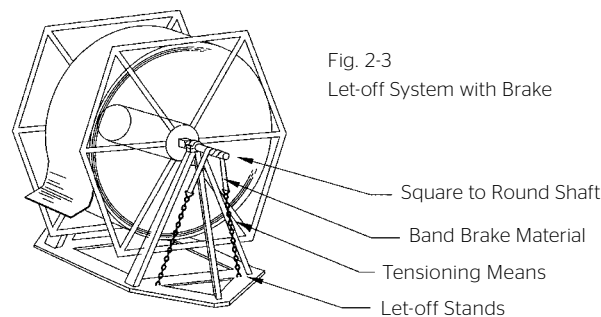

Fig. 2-3
7. To prevent the belt roll from over-running at the let off, a braking device is recommended (Fig. 2-3).